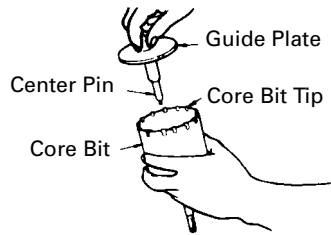

Fig. 17
- (3) Insert the center pin into the guide plate until it stops. (Fig. 17)
- (4) Engage the guide plate with the core bit, and turn the guide plate to left or right so that it does not fall even if it faces downward. (Fig. 17)